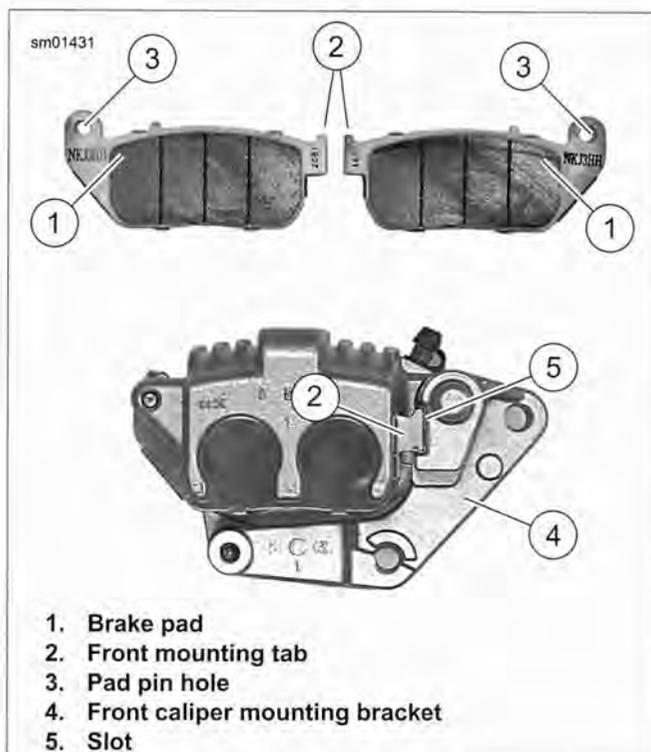

Figure 1-18. Front Brake Pads
7. See Figure 1-18. Install **new** inside brake pad (1) using same orientation as pad previously removed. Make sure front mounting tab (2) is seated in slot (5) in caliper mounting bracket (4) and pad friction material faces brake disc.
- See Figure 1-18. Pad front mounting tabs (2) must be fully seated in mounting bracket slot (5).